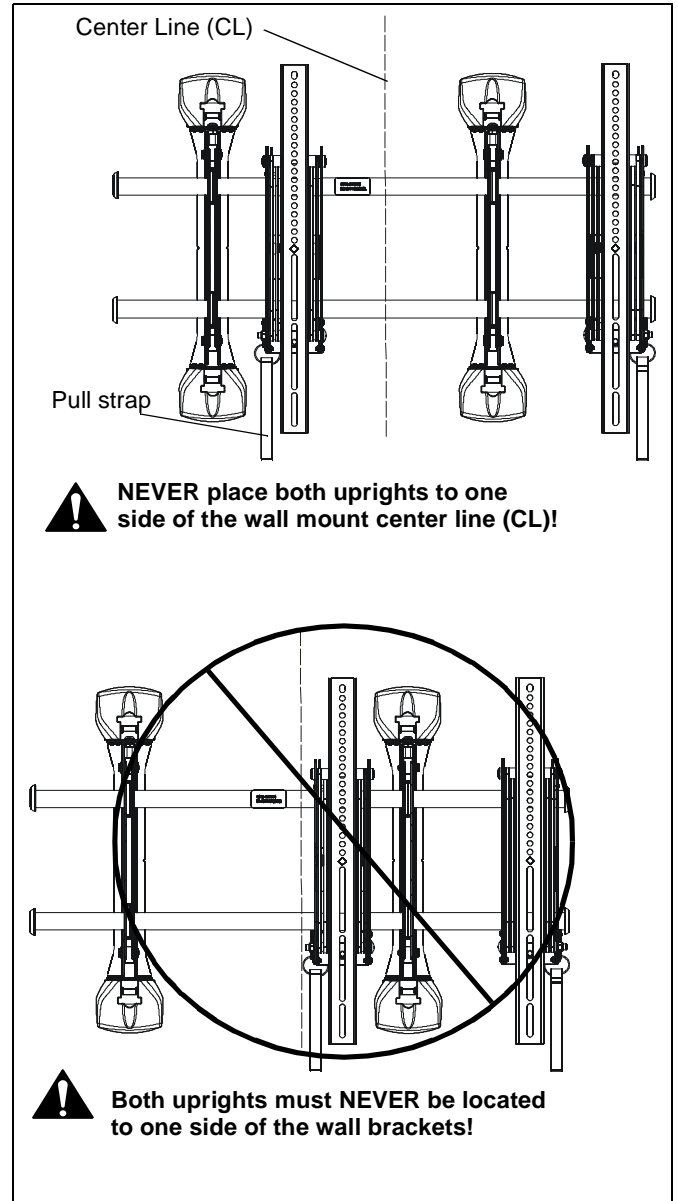

Figure 7
2. Adjust Velcro® pull strap (if necessary) so it does not extend beyond bottom of screen. (See Figure 7)
NOTE: Do NOT allow both uprights (U and V) to be located on same side of wall bracket. (See Figure 7)
NOTE: NEVER place both uprights (U and V) to one side of the wall mount center line! (See Figure 7)